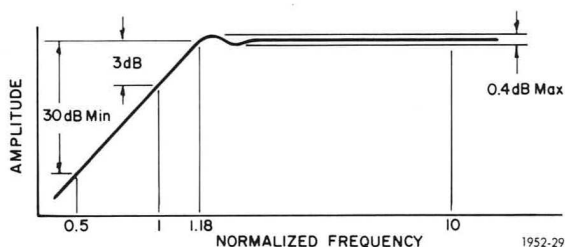

Figure 6-5. Typical High-Pass Filter Characteristic.
e. Repeat the entire procedure for each cutoff frequency listed in Table 6-8 (refer to Figure 6-5). In each case set the reference amplitude at a frequency 10 times cutoff. The frequency at each point of interest should be as given in the table.